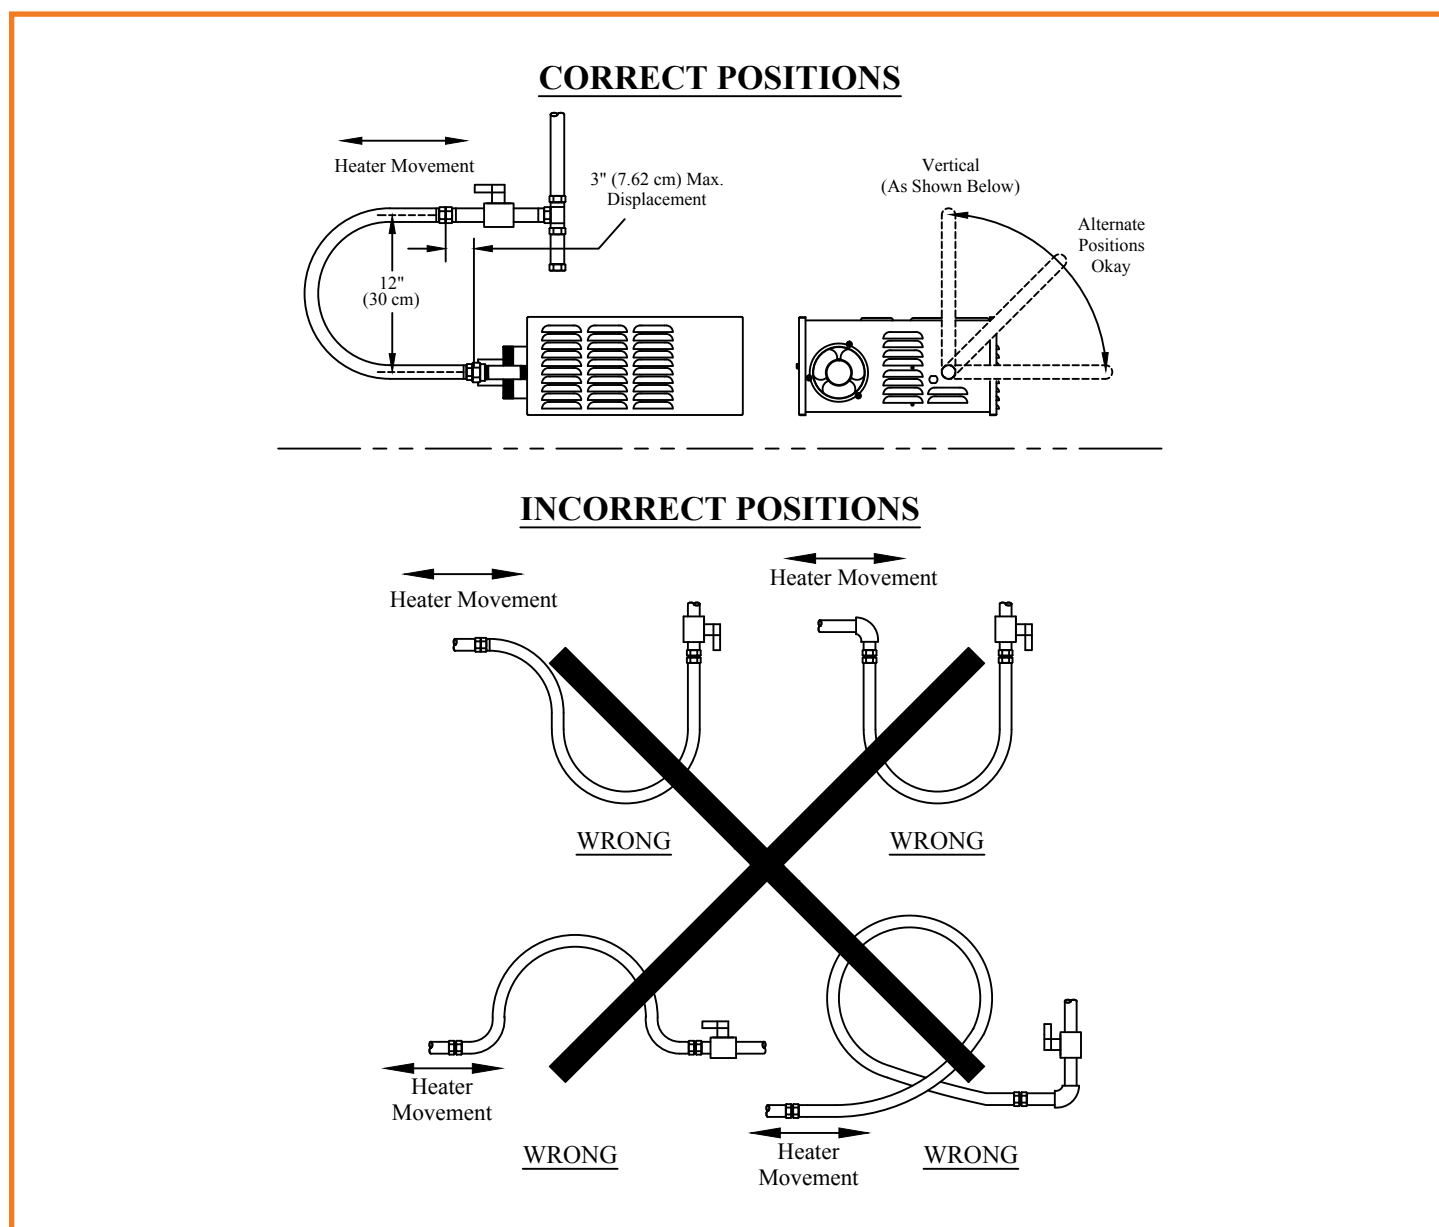

Figure 14: Flexible Gas Connections
- Flexible gas connectors of approved type must be installed as shown in Figure 14, in one plane, and without sharp bends, kinks or twists. A smooth loop of approximately 12" (30 cm) in diameter is best. Failure to install the gas connection in the approved manner will result in a hazardous and potentially deadly situation due to the movement of the heat exchanger and burner in the normal course of operation.